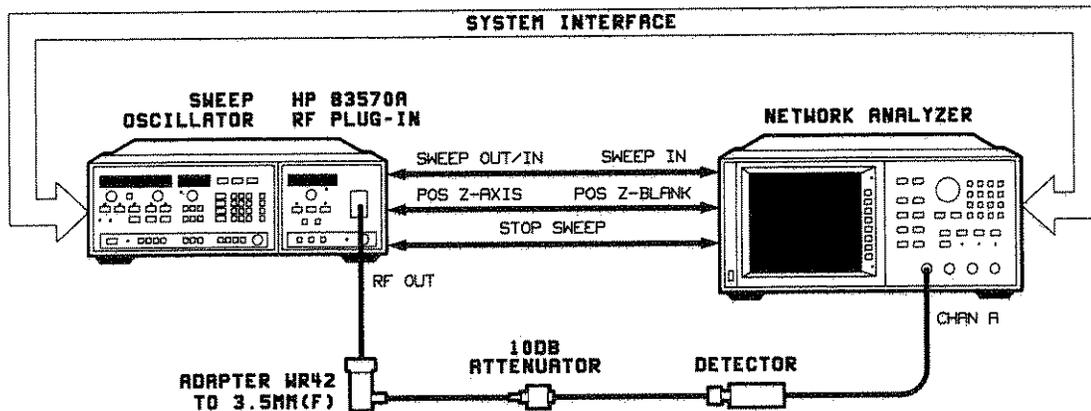

Figure 5-27. Power Sweep Adjustment Test Setup
1. Connect the equipment as shown in Figure 5-27. Allow 30 minutes for warm-up.